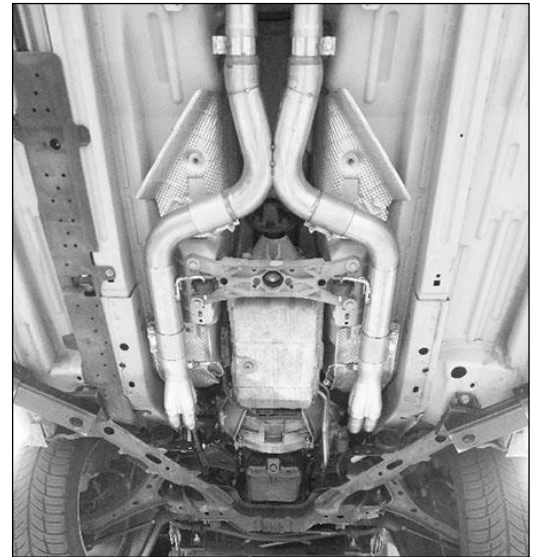

Figure 1
3. Install a supplied 3" coupler onto each header collector, bolts to the outside and nuts facing down (**Figure 1**).
4. Install the Left link pipe hanger rod into the isolator at the transmission cross member. Slide the coupler over the link pipe, allowing a 50/50 split between the header collector and the link pipe (**Figure 1**). Tighten the clamp to allow for adjustment.
5. Install the Right link pipe hanger rod into the isolator at the transmission cross member. Slide the coupler over the link pipe, allowing a 50/50 split between the header collector and the link pipe (**Figure 1**). Tighten the clamp to allow for adjustment.
6. Install a supplied 3" coupler over each link pipe outlet (bolt to the inside and nuts facing down). Place the X-pipe into the vehicle. Slide the coupler over the short legs of the X-pipe inlet, allowing a 50/50 split between the X-pipe and the link pipe (**Figure 1**). Support the X-pipe and tighten the couplers to allow for adjustment.